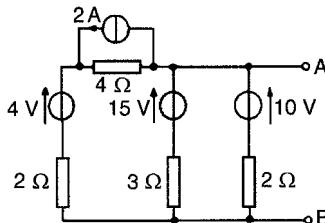

Figure 13.78
- 4 Determine, by successive conversions between Thévenin and Norton equivalent networks, a Thévenin equivalent circuit for terminals AB of Fig. 13.78. Hence determine the current flowing in a 6Ω resistor connected between A and B. $[E = 9\frac{1}{3} \text{ V}$, $r = 1 \Omega$, $1\frac{1}{3} \text{ A}]$